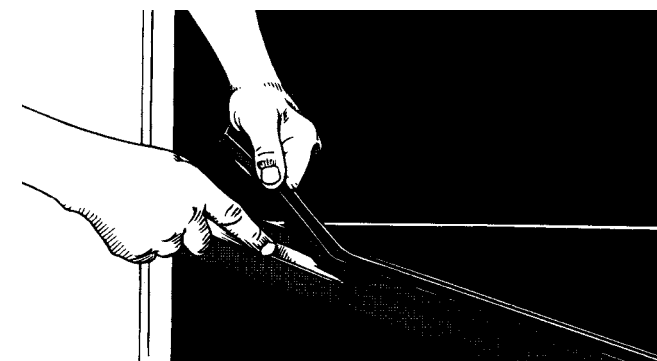

Fig. 5-17
30. Trim the top ply step/joint - Leave a gap of approximately 1/32 in. to 1/16 in. (1mm to 2mm) wide at the ply seam/joint. All ply seams must have a gap of 1/32 in. to 1/16 in. (1mm to 2mm). Place a noodle or narrow strip of inside rubber over each ply seam gap (Fig. 5-17).